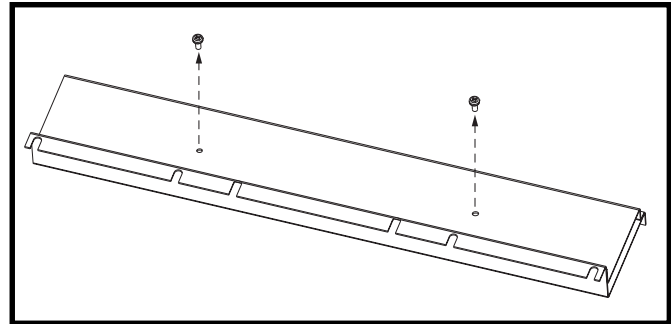
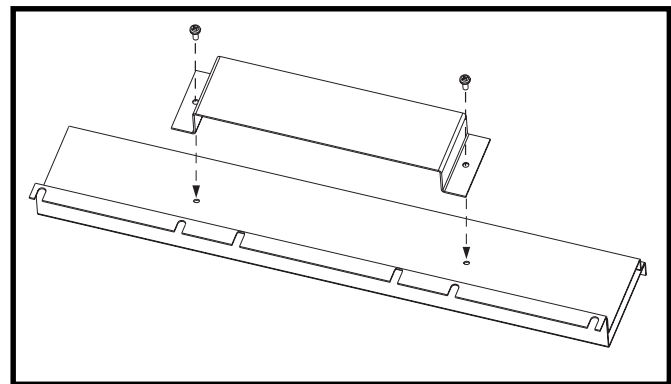

Fig. 36 Top face of baffle assembly
Fig. 37 Assembling bracket restricter to baffle assembly
2. Remove the four (4) nuts along the front edge, and the three (3) screws along the rear edge of the baffle assembly. Remove the baffle assembly from the firebox.
3. Remove the two (2) screws from the top face of the baffle assembly (Fig. 36). Place the bracket restricter as it is shown in Fig. 37, and secure it by refitting the screws.
4. Refit the baffle assembly to the firebox, replacing the three (3) screws and four (4) nuts.